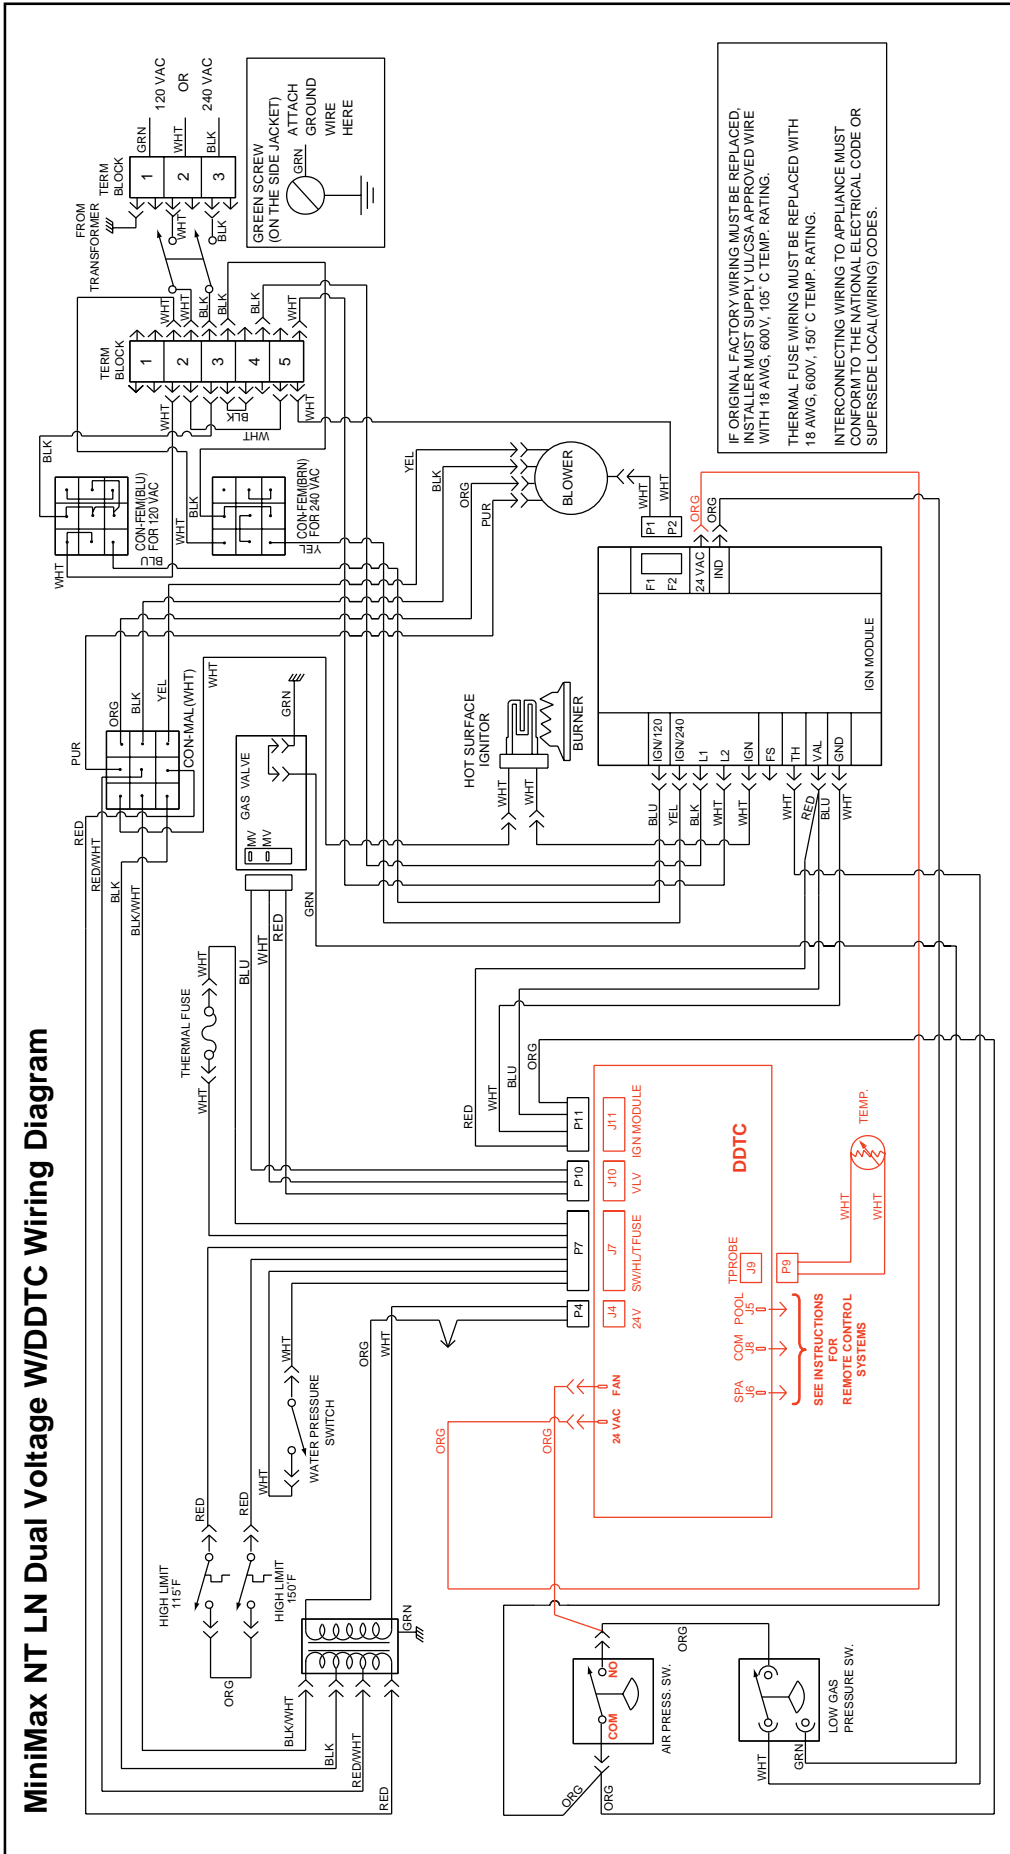
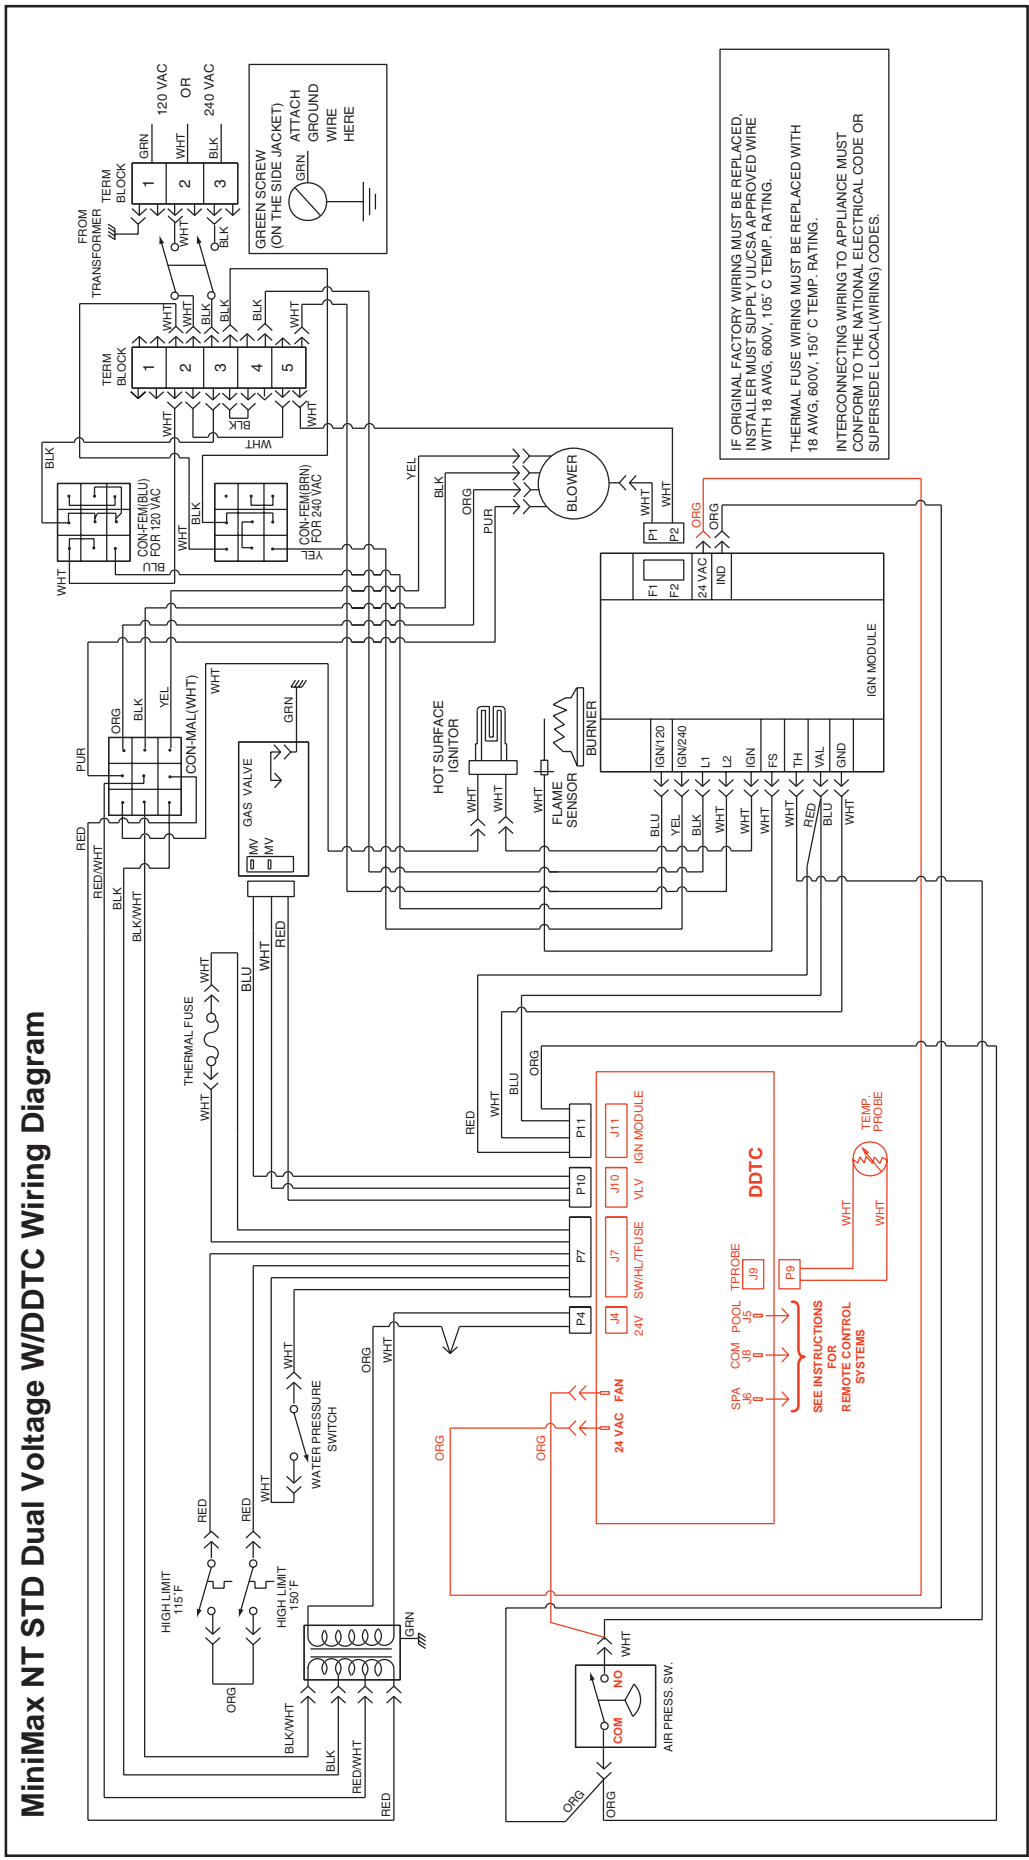
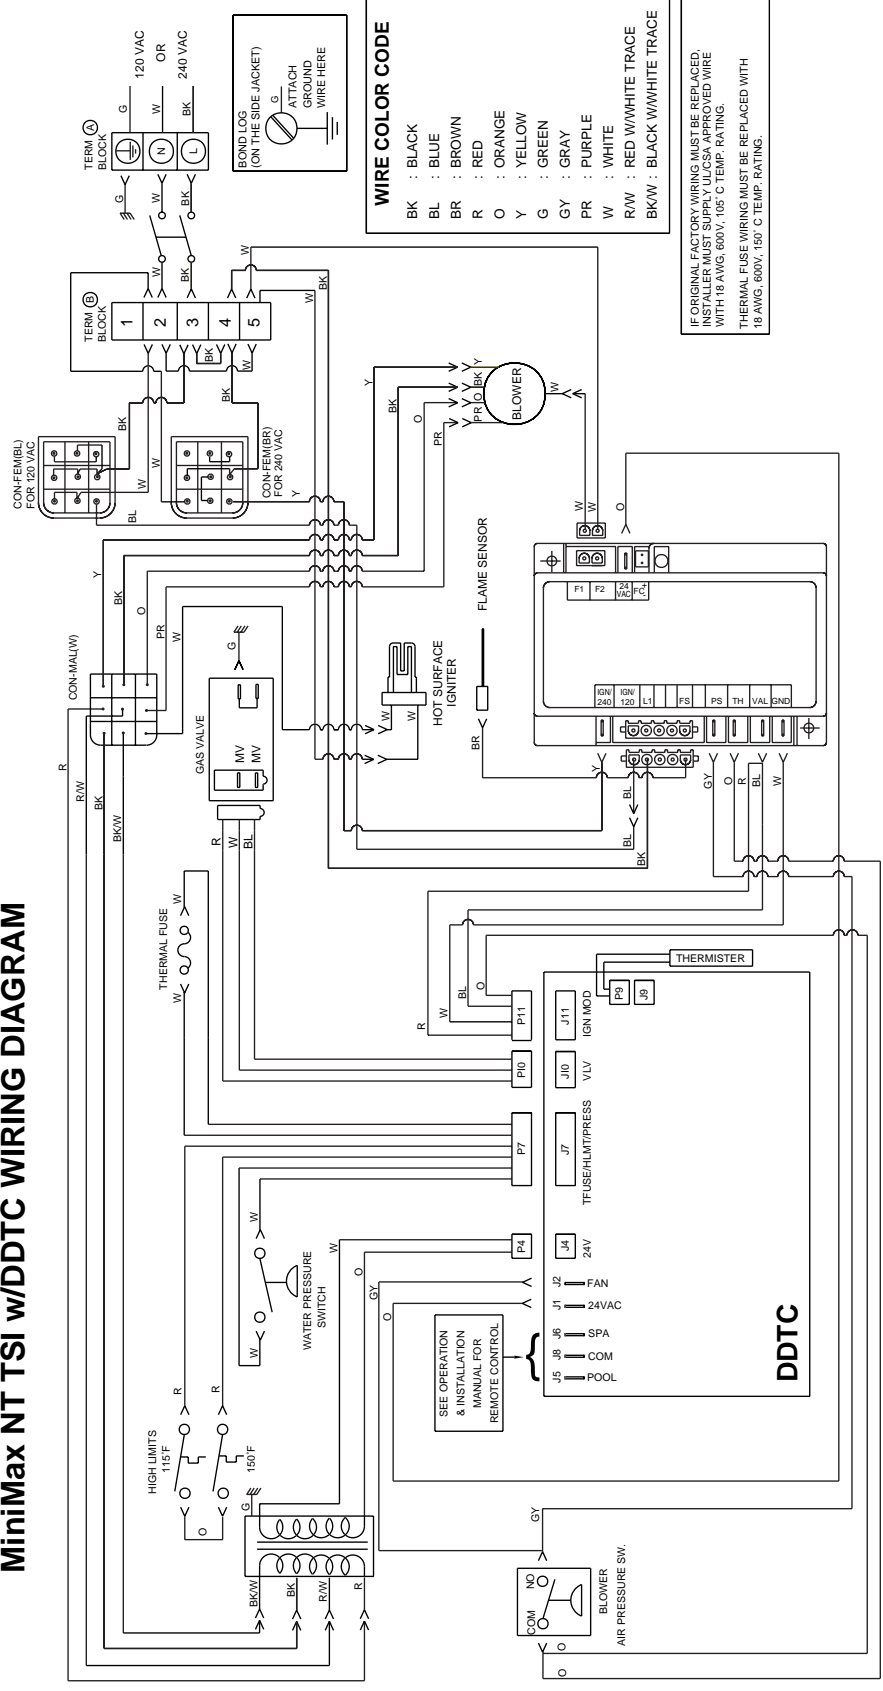

Figure 4.
Figure 5.
Figure 6.
1. Please see wiring diagram's, Figure 4 for MiniMax NT LN DV Heater, Figure 5 for MiniMax NT DV Heater, and Figure 6 for MiniMax NT TSI LN Heater and follow the instructions below exactly.